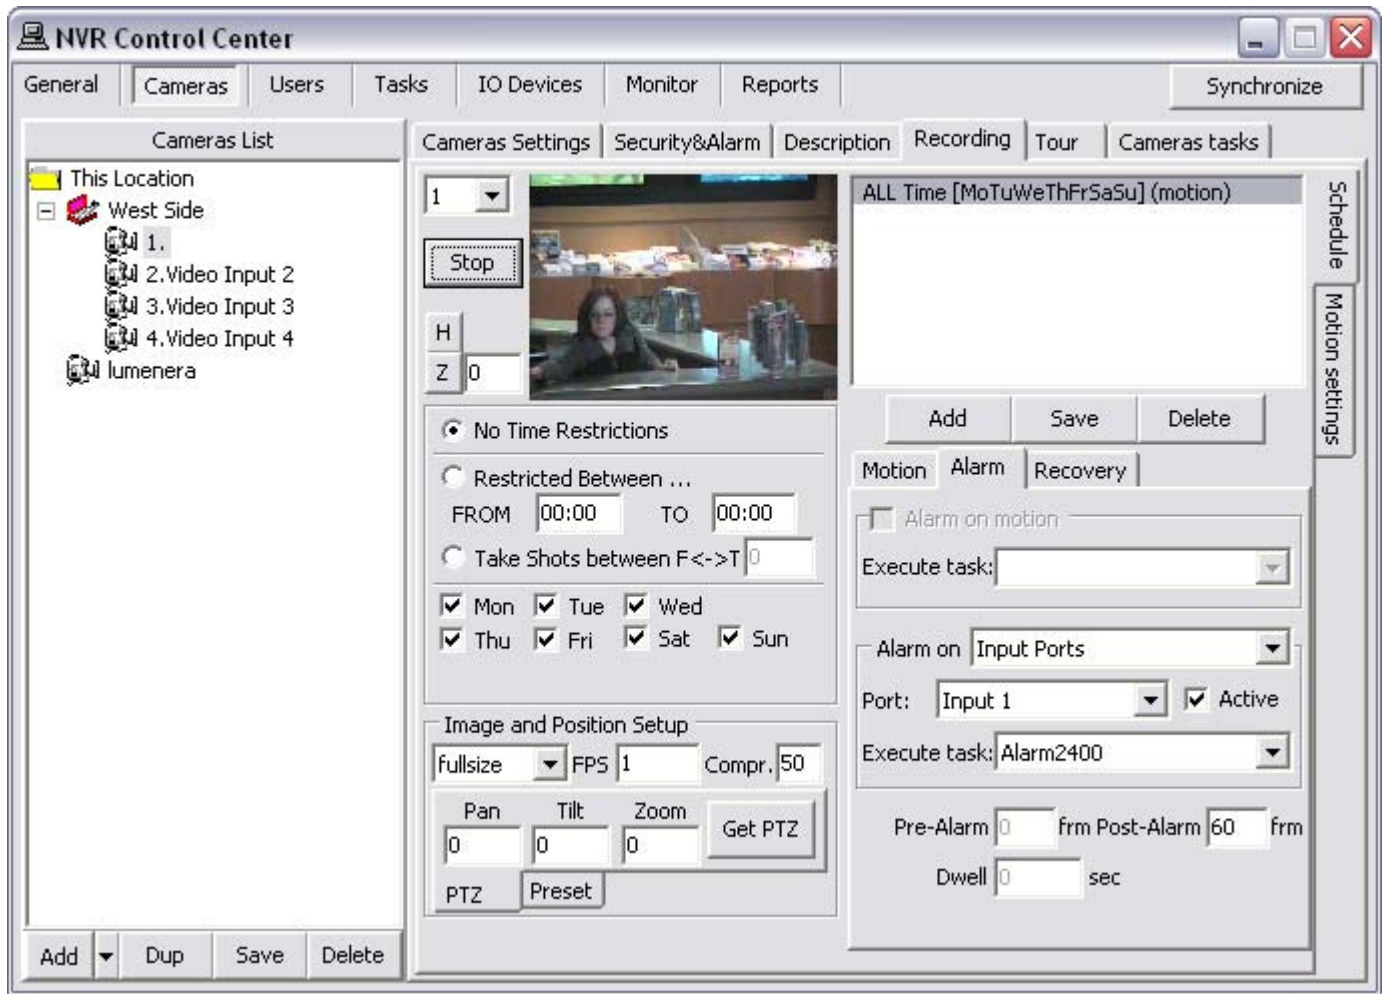

Fig 52. NVR Control Center — Cameras — Recording — Schedule — Alarm
1. With a selected camera schedule switch to the **Alarm** tab below the schedule list (Fig 52).